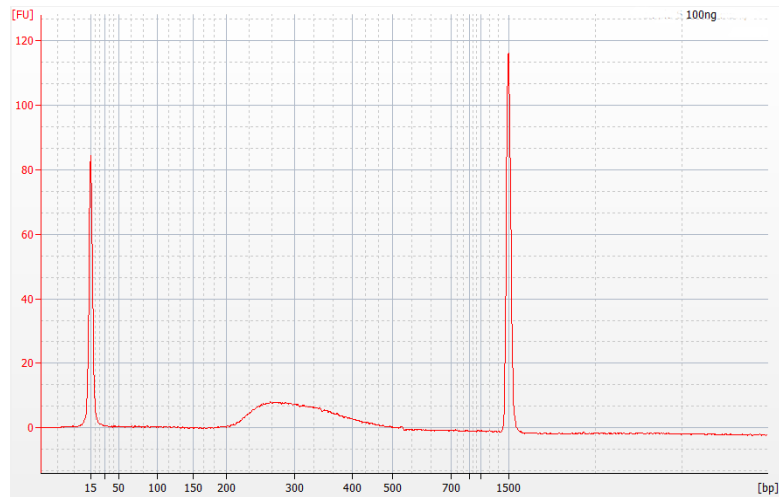

Figure 5 DNA 1000 Assay analysis of amplified library DNA prepared using the 100-ng DNA input Sample Preparation protocol.
- 7 Verify that the electropherogram shows a distribution with an average DNA fragment size of approximately 250 to 275 bp. A sample electropherogram is shown in Figure 5.